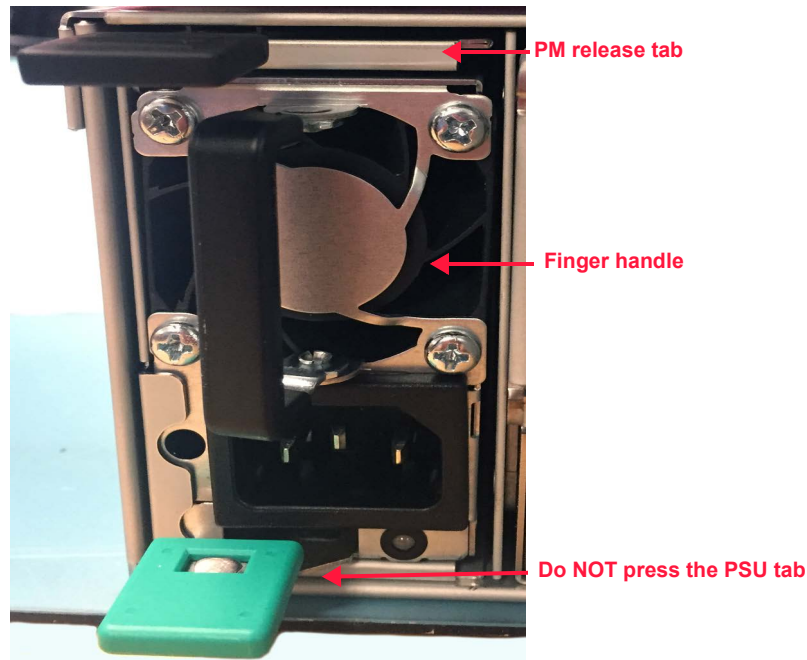

Figure 2.7 PM removal
2. Push the PM release tab downwards in the direction of the finger handle while simultaneously pulling the finger handle outward to disengage the PM cam. Figure 2.7 identifies the release tab and finger handle. Do NOT press the PSU tab below the finger handle.